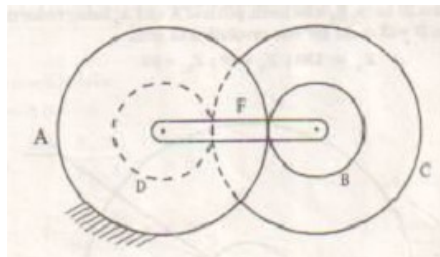

Fig. 4.5
5. An Epicyclic gear train is constructed as shown in fig 4.5. A fixed annular wheel A & a smaller concentric wheel B are connected by a compound wheel A1-B1. A1 gearing with A. B1 gearing with B. The compound wheel revolves on a stud which is carried around an arm which revolves about the axis A & B. A has 130 teeth, B1 = 80 teeth, pitch of A & A1 being twice that of pitch of B & B1. How many revolutions B will make for one revolution of the arm. (solve it by algebraic method)